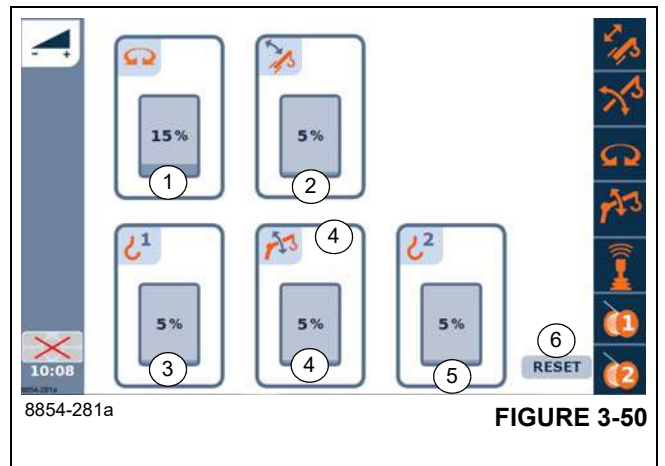

FIGURE 3-50
The values below the symbols (1), (Figure 3-50) to (5) indicate the currently set crane function speeds.
The symbol (5), (Figure 3-50) is only active when the auxiliary hoist is connected.
- Symbol (6), (Figure 3-50) resets all values without prior selection.